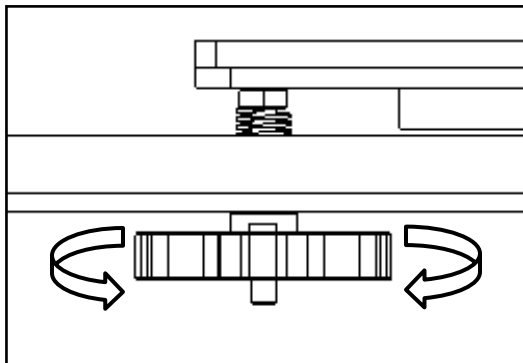

Fig 1
2. Watch the nozzle, tighten the hand nuts under the bed to move down or loosen these nuts to move up the bed (**Fig 1**), let the nozzle is higher than the bed about 1~2mm (**Fig 2**),.